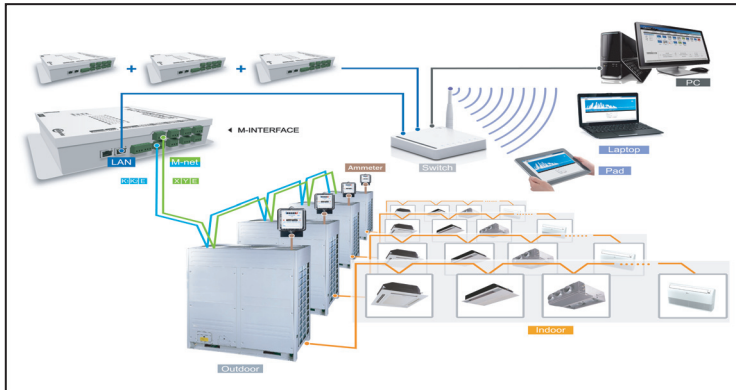

Fig.4-1
- 1) M-INTERFACE gateway can connect the local area network or Internet network through LAN terminal. M-INTERFACE network topology as follows Fig 4-1.